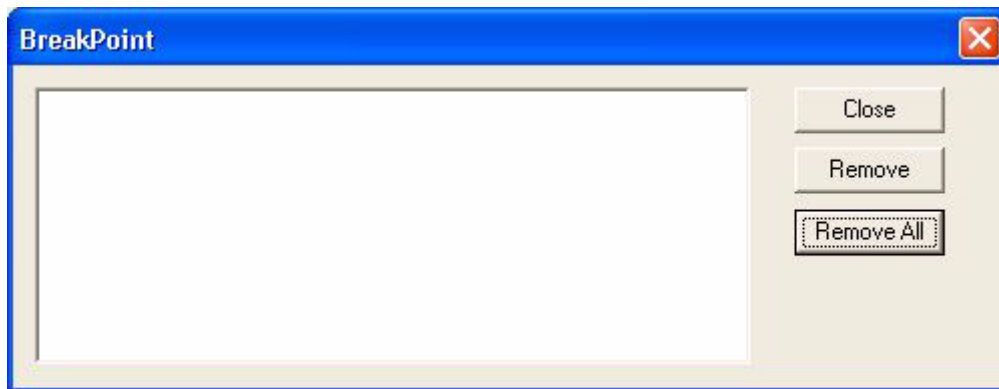

Figure 4-54. BreakPoint Dialog Box with Break Points Removed
- 8 Selecting the **Remove All** button removes all the break points (Figure 4-54) and then the **Close** button closes the dialog box.